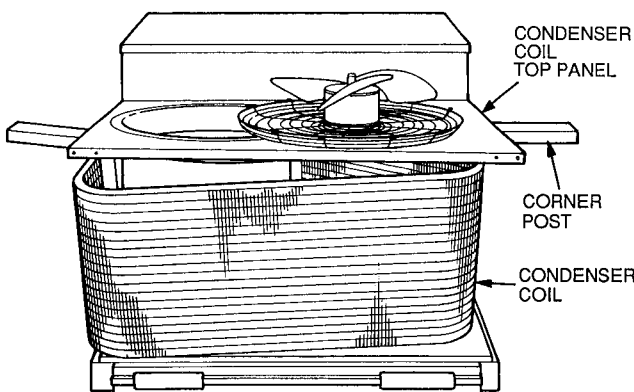

Fig. 34 — Propping Up Condenser coil Top Cover
1. To access 2-row coils, remove screws securing condenser-fan grille to condenser coil top cover. Place grille on top of condenser coil top cover as shown in Fig. 34. It is not necessary to remove the top cover.
8. Use right corner post to prop up right side of condenser coil top cover. Slide condenser coil partially out of condenser fan housing. See Fig. 34.